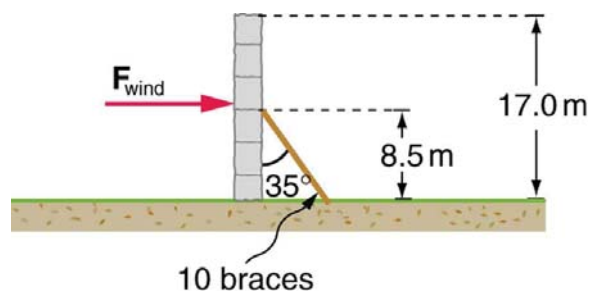

Figure 9.31
- A 17.0-m-high and 11.0-m-long wall under construction and its bracing are shown in **Figure 9.31**. The wall is in stable equilibrium without the bracing but can pivot at its base. Calculate the force exerted by each of the 10 braces if a strong wind exerts a horizontal force of 650 N on each square meter of the wall. Assume that the net force from the wind acts at a height halfway up the wall and that all braces exert equal forces parallel to their lengths. Neglect the thickness of the wall.